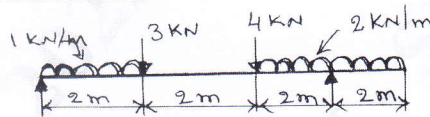

Fig.Q5(b)
b. Find the reactions at the fixed end and draw SFD and BMD for the beam shown in Fig.Q5(b). Locate point of contraflexure.